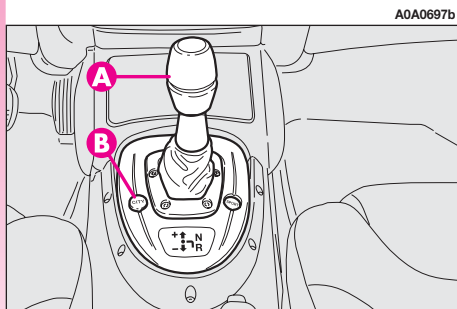
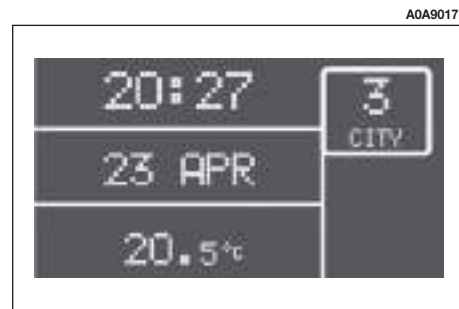
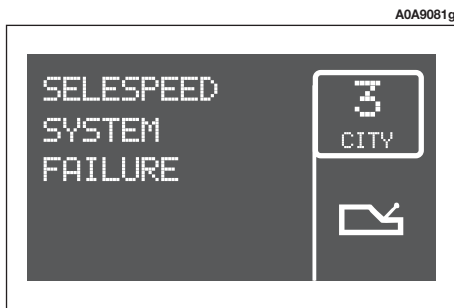

fig. 117
fig. 119
fig. 120
- the second is automatic, called **CITY** (when selecting **CITY** with button **B**-fig. 117, the word **CITY** will be displayed fig. 119). In this mode the system decides directly when to shift gear.
The gear selected (**fig. 119**) is always displayed regardless of the mode being selected selected .
A warning light, a message (**fig. 120**) and a buzzer draw the attention of the driver in the event of a fault at Selespeed transmission.
Turning the ignition key to **MAR**, all the segments of the display (**fig. 119**), the gearbox warning light (**fig. 120**) and the word **CITY** turn on. After about one second, the display indicates the gear engaged (**N, 1, 2, 3, 4, 5, R**).